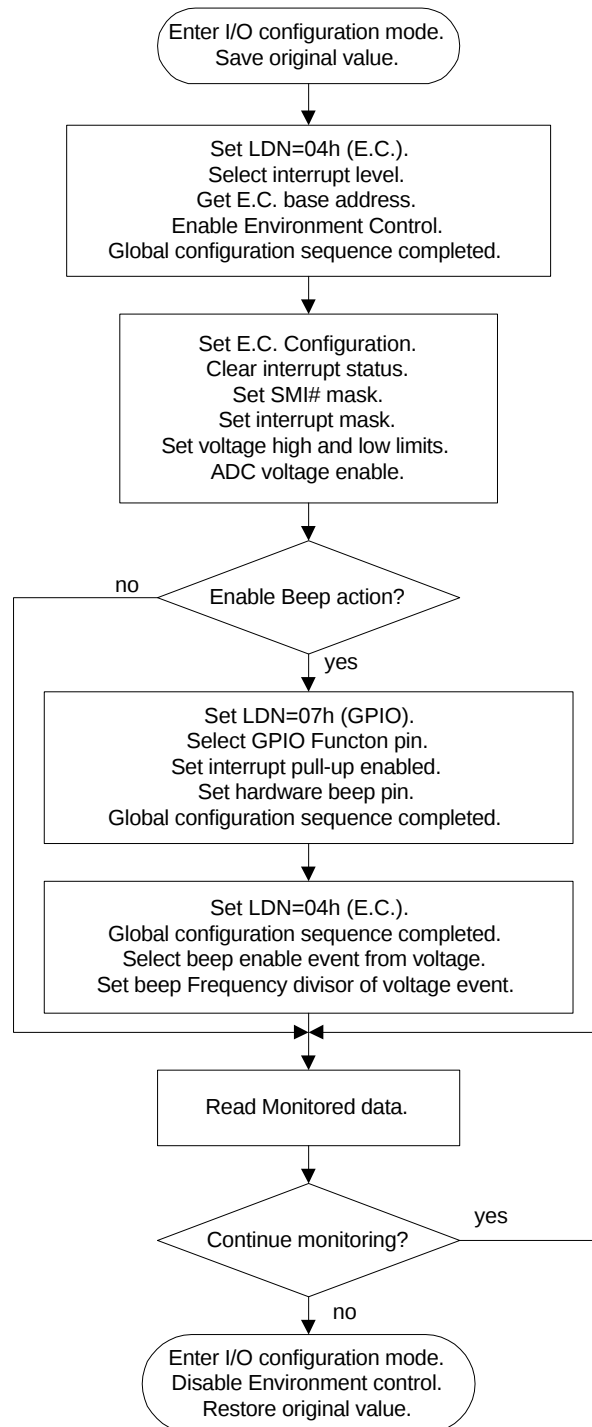
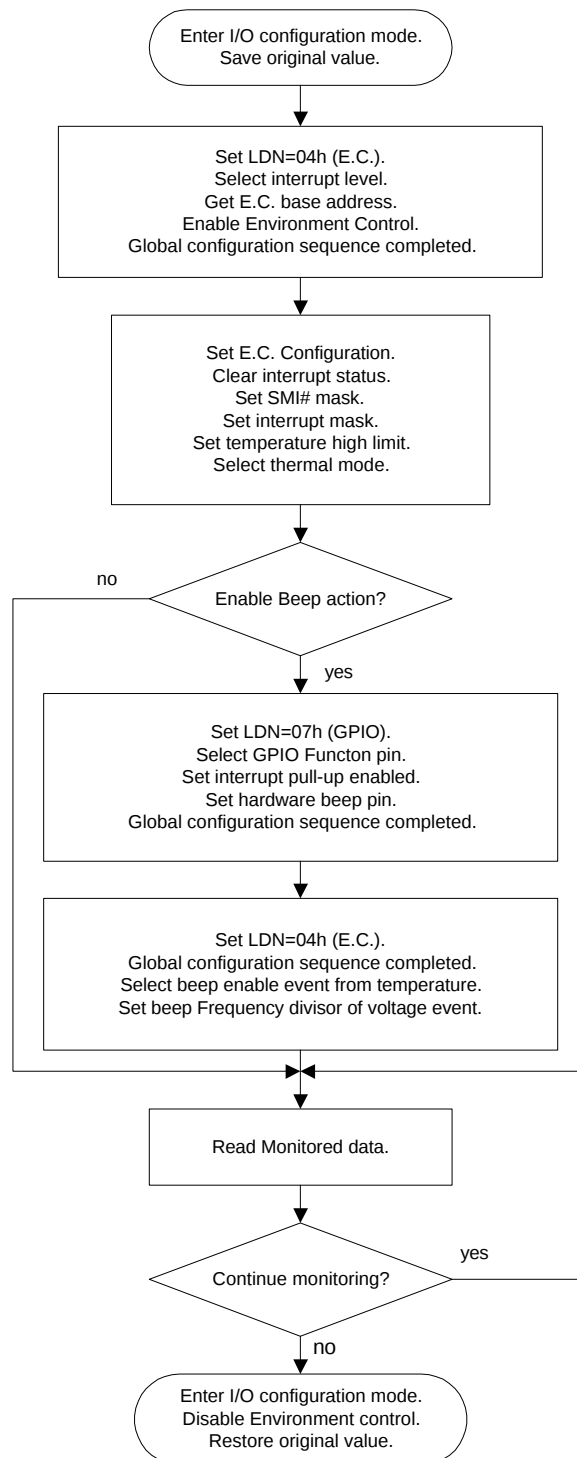
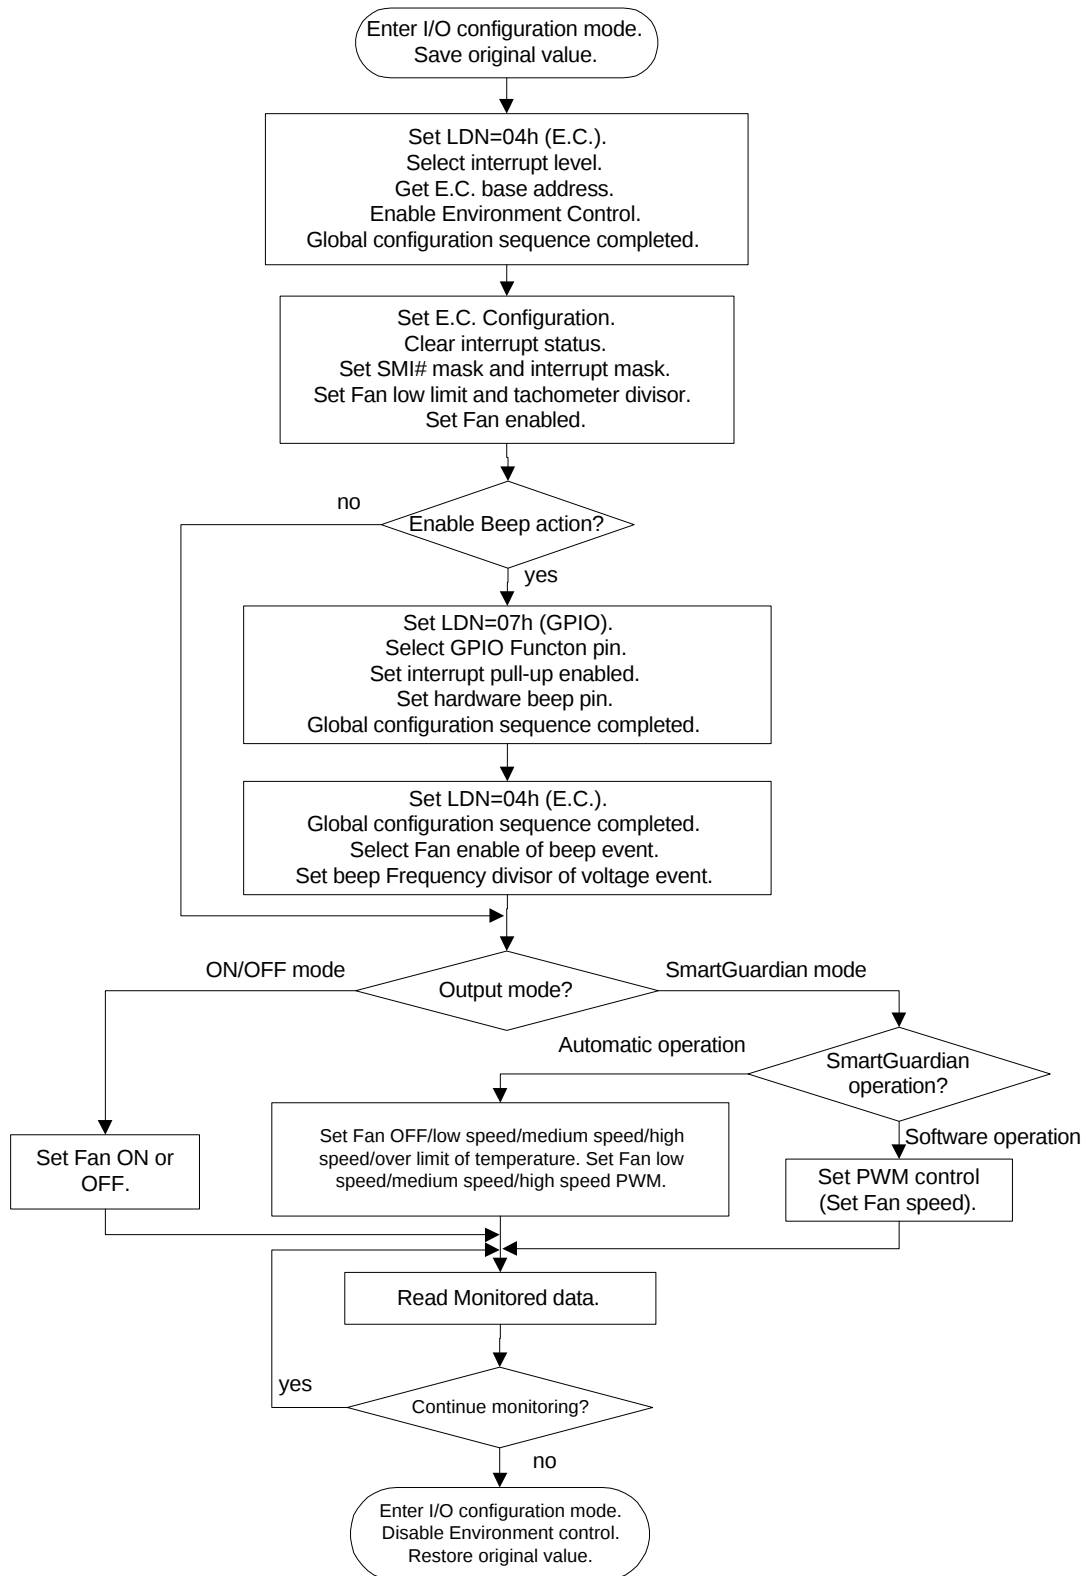

Figure 2-1. EC Voltage Monitor Control Flow Chart
Figure 2-2. EC Temperature Monitor Control Flow Chart
Figure 2-3. Fan Monitor and EC Control Flow Chart
The coding flow chart of the voltage monitor of the EC is illustrated in Figure 2-1. The coding flow chart of the Temperature monitor of the EC flow charts is illustrated in Figure 2-2. The flow chart of the Fan monitor and control of the EC is illustrated in Figure 2-3.
- Note 1.** Please refer to Figure 2-1 (EC Voltage Monitor Control flow chart) to set the Voltage monitor of the hardware monitor controller.
- Note 2.** Please refer to Figure 2-2 (EC Temperature Monitor Control flow chart) to set the Temperature Controller/Monitor of the hardware monitor controller.
- Note 3.** Please refer to Figure 2-3 (Fan Monitor and EC Control flow chart) to set the Fan Controller/Monitor of the hardware monitor controller.